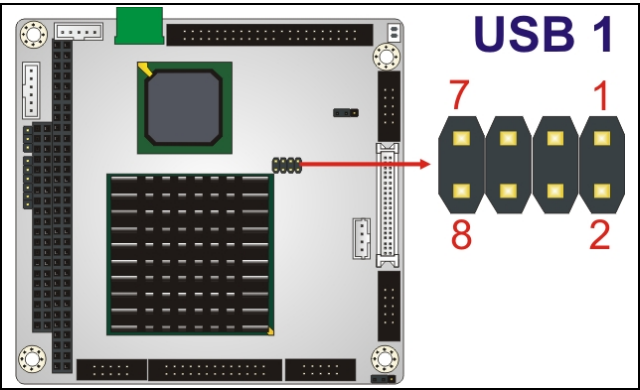

Figure 3-19: USB Connector Pinout Locations
- CN Location: See Figure 3-19